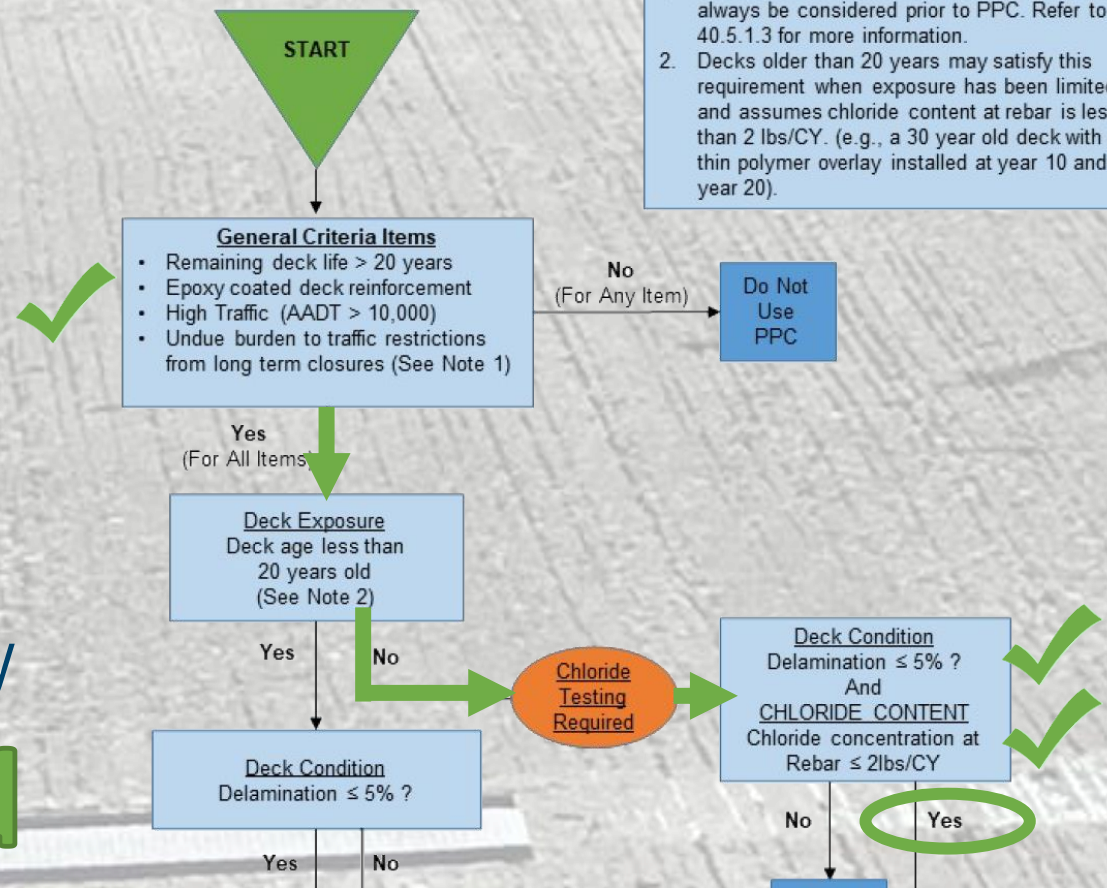

Figure 40.5-2
**Note: PPC overlays are expensive and new to WisDOT. As a result, use of PPC overlays should be limited to preservation projects that meet the requirements outlined in Figure 40.5-2 or as approved by the Bureau of Structures.**